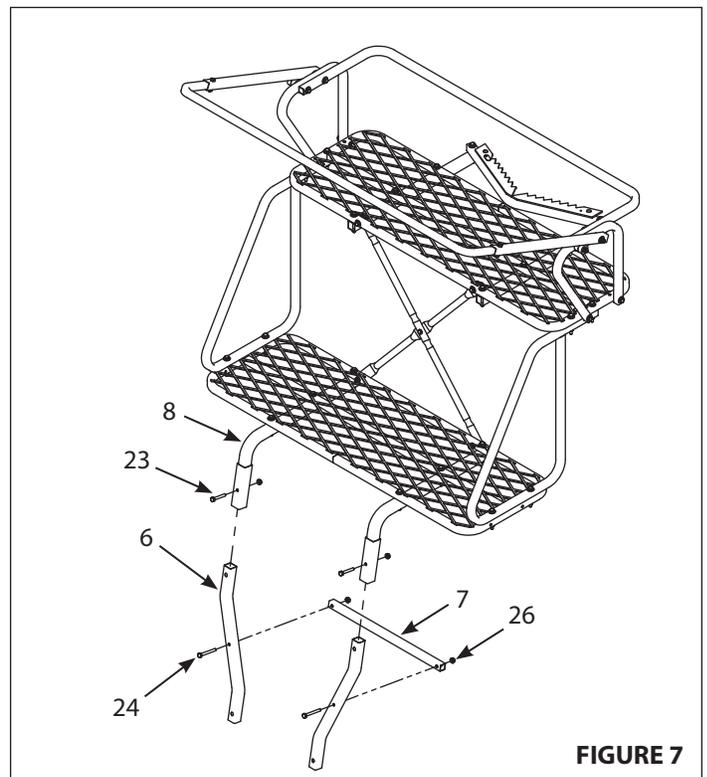

FIGURE 7
10. Insert the ladder offset extensions (6) into the J-pipes (8) and secure together using two 1/4-20 x 1-3/4" bolts (23) and locknuts (26). **SEE FIGURE 7.**
11. Attach offset extension step (7) to the offset extensions (6) using two 1/4-20 x 2-1/4" bolts (24) and locknuts (26). **SEE FIGURE 7.**
13. a. Attach the sewn seat pad (18) to the metal seat frame (9) by wrapping straps around metal frame and securely fastening all plastic buckles together. Pull straps tight so seat is not loose.
- b. Attach the sewn rail covers (19) to the shooting rail (17) and the backrest rail (15) by wrapping around tubing and attaching Velcro together.